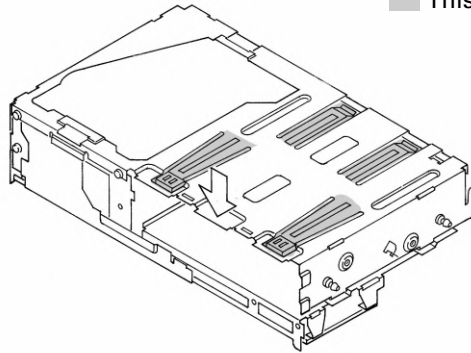

Fig. 21
- 1) Do not hold the upper frame of the magazine insertion port in the CD mechanism module, marked by an arrow in Fig. 21, when servicing. It's because this section is easily deformed.